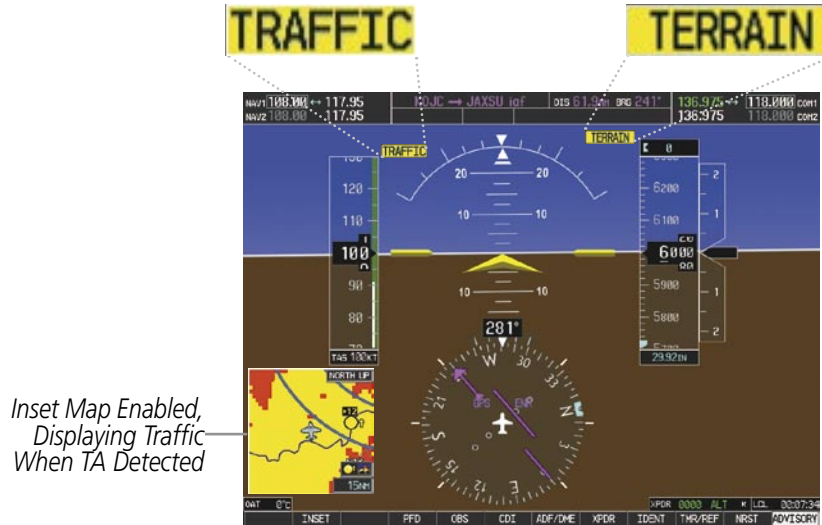

Figure 2-36 Traffic and Example TAWS Annunciations
- A flashing black-on-yellow 'TRAFFIC' annunciation (Figure 2-36) appears to the top left of the Attitude Indicator for five seconds and remains displayed until no TAs are detected in the area